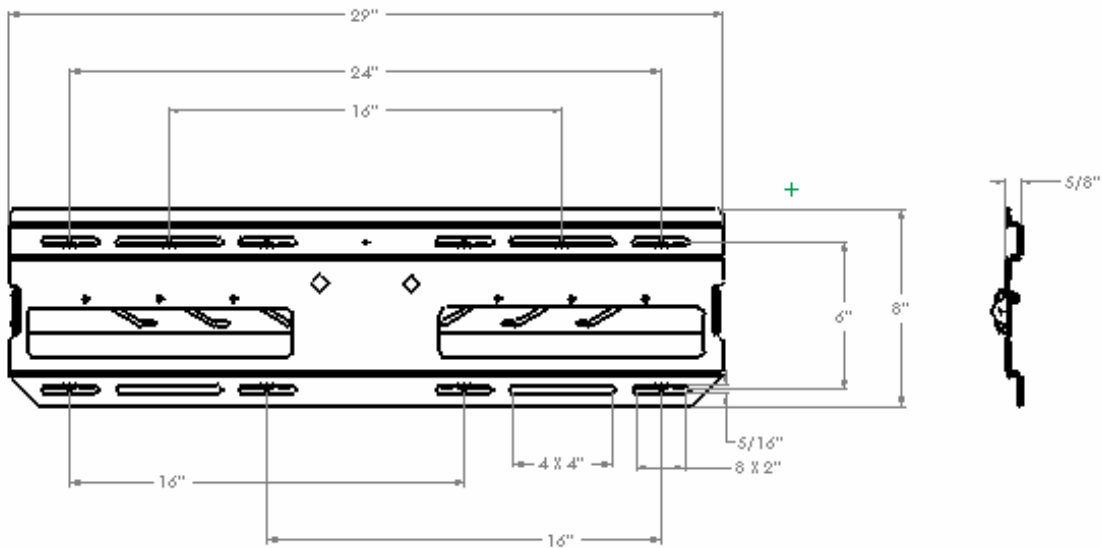

Figure 8. Wall Plate Dimensions
1. Determine suitable a mounting location and lift the wall plate (10) into place (see Figure 8).